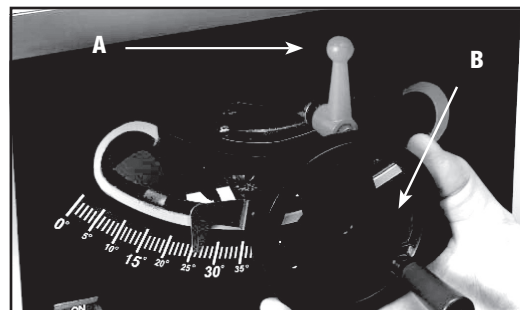
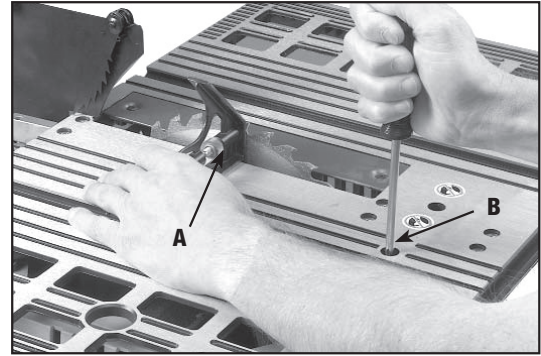
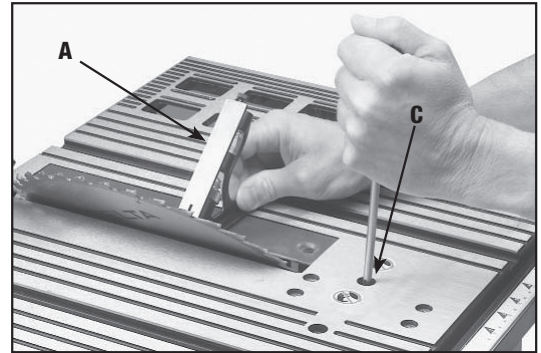

Fig. 30
Fig. 31
Fig. 32
To tilt the saw blade, loosen the lock handle (A) Fig. 30 and move the handwheel (B) until the blade is at the desired angle. Tighten the lock handle (A).
**NOTE:** The lock handle (A) is spring-loaded. Pull out on the handle (A) and reposition it on the serrated stud located underneath the handle.
2. Loosen the blade tilting lock handle (A) Fig. 30, move the blade tilting mechanism (B) as far as possible to the left, and tighten the blade tilting lock handle (A).
3. Place a square (A) Fig. 31 on the table with one end of the square against the blade, and check to see if the blade is 90 degrees to the table. If not, loosen the screw (B) Fig. 31 a few turns and move the blade tilting mechanism until the blade is 90 degrees to the table. Tighten the blade tilting lock handle (A) Fig. 30, and tighten the screw (B) Fig. 31 until it stops.
2. Loosen the blade tilting lock handle (A) Fig. 31, move the blade tilting mechanism (B) as far as possible to the right, and tighten the blade tilting lock handle (A).
3. Place a square (A) Fig. 32 on the table with one end of the square against the blade, and see if the blade is 45 degrees to the table. If not, loosen the screw (C) Fig. 32 a few turns and move the blade tilting mechanism (B) Fig. 30, until the blade is 45 degrees to the table. Tighten the blade tilting lock handle (A) Fig. 30, and tighten the screw (C) Fig. 32 until it stops.